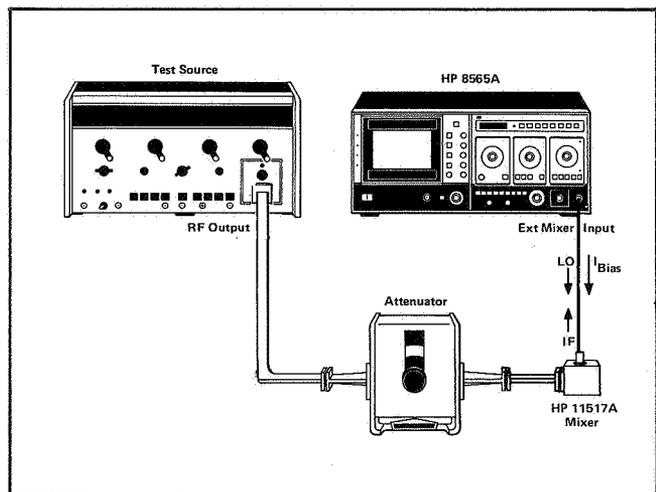

Figure 20. External mixer test set-up
A connection diagram of the HP 8565A with the HP 11517A External Mixer and adapter is illustrated in Figure 20.
- Set up equipment as shown in Figure 20.